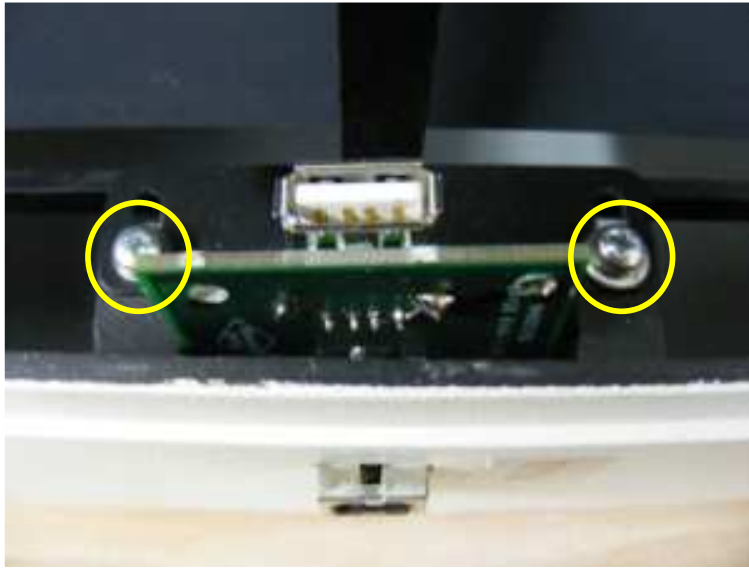

Figure 10-1
- Release two M3 screws and remove the board with the metal adapter (Figure 10-1)